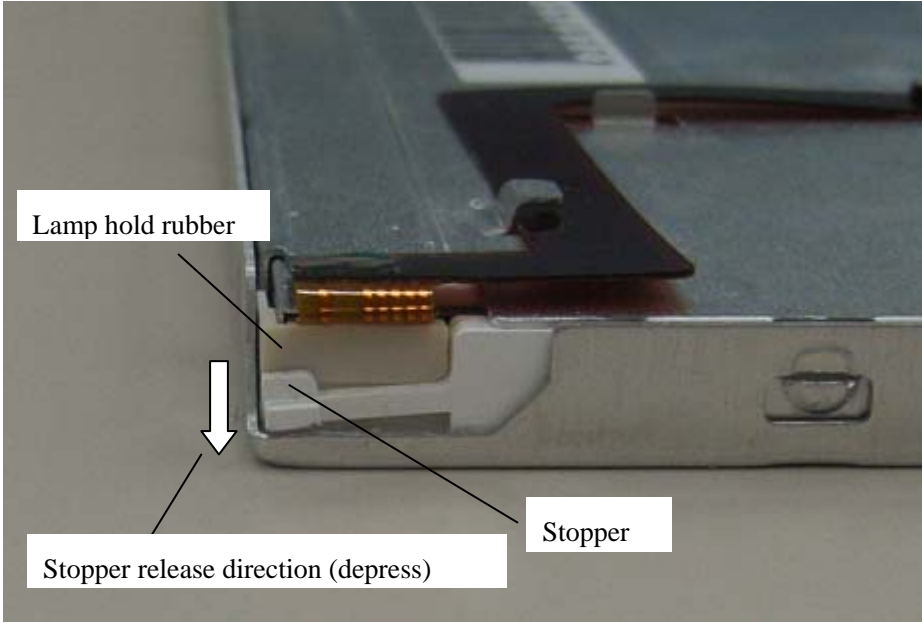
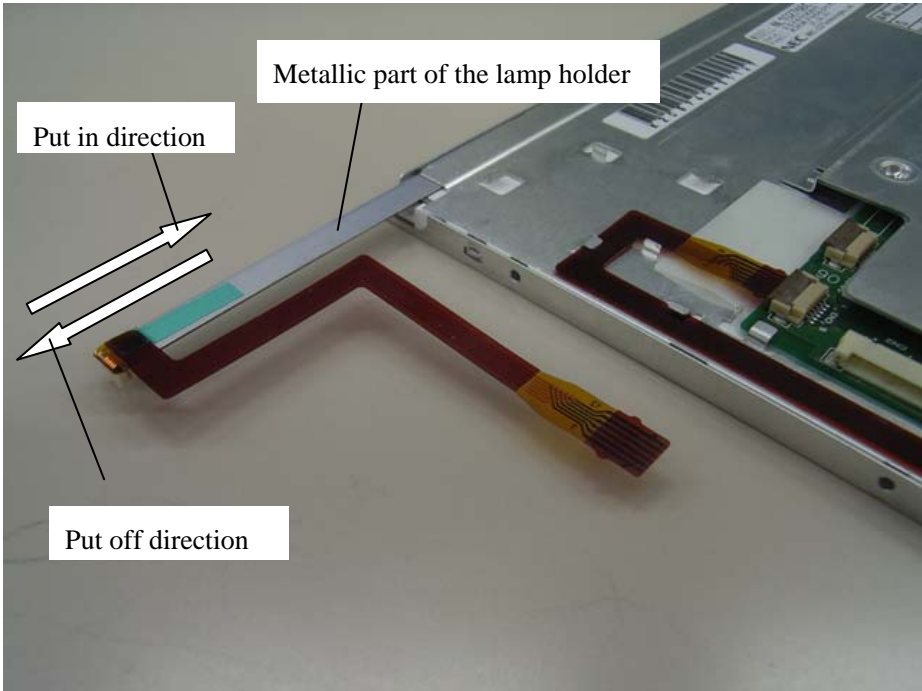

Fig.3
Fig.4
- As depressing the stopper (Fig.3), pull off the lamp holder with the lamp cable (FPC) along by the sheath slowly, gently and straightforward. Be careful to pull out the lamp holder. (Fig.4)